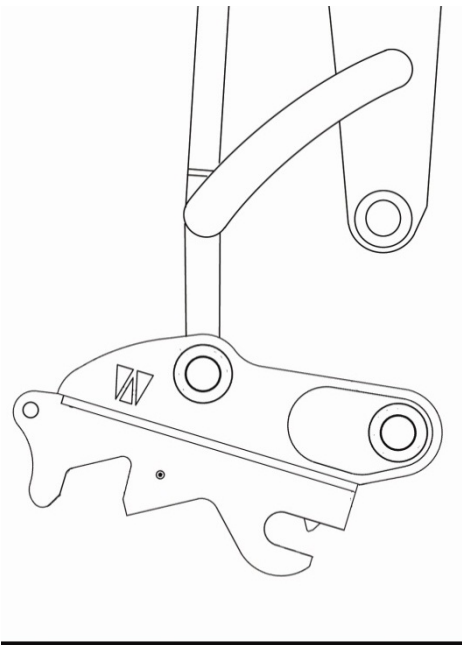

Fig 3.4.1 Raise dipper arm to take weight off coupler
- Carefully raise the dipper arm of the carrier machine so that the weight of the coupler is off the ground. Ensure that the dipper arm is in a vertical position. (Fig 3.4.1).